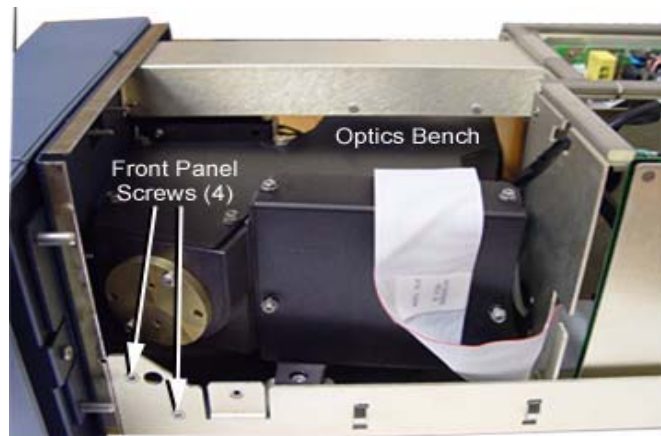

Figure 3 - Front Panel Screws
7. Remove the four T20 Torx screws (two on each side) that secure the front panel/bezel assembly to the chassis (Figure 3).